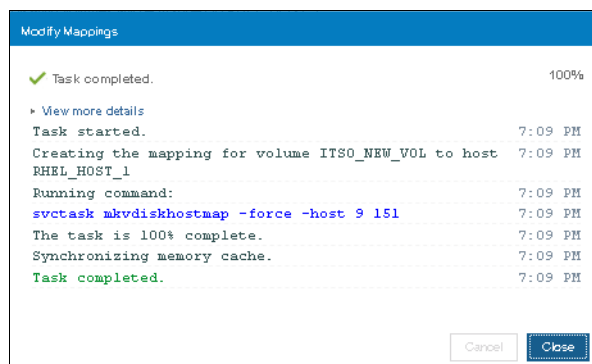

Figure 6-47 Volume mapping task completed
4. Click **Map Volumes**. A window indicating task of volume mapping completed will be shown as in Figure 6-47.